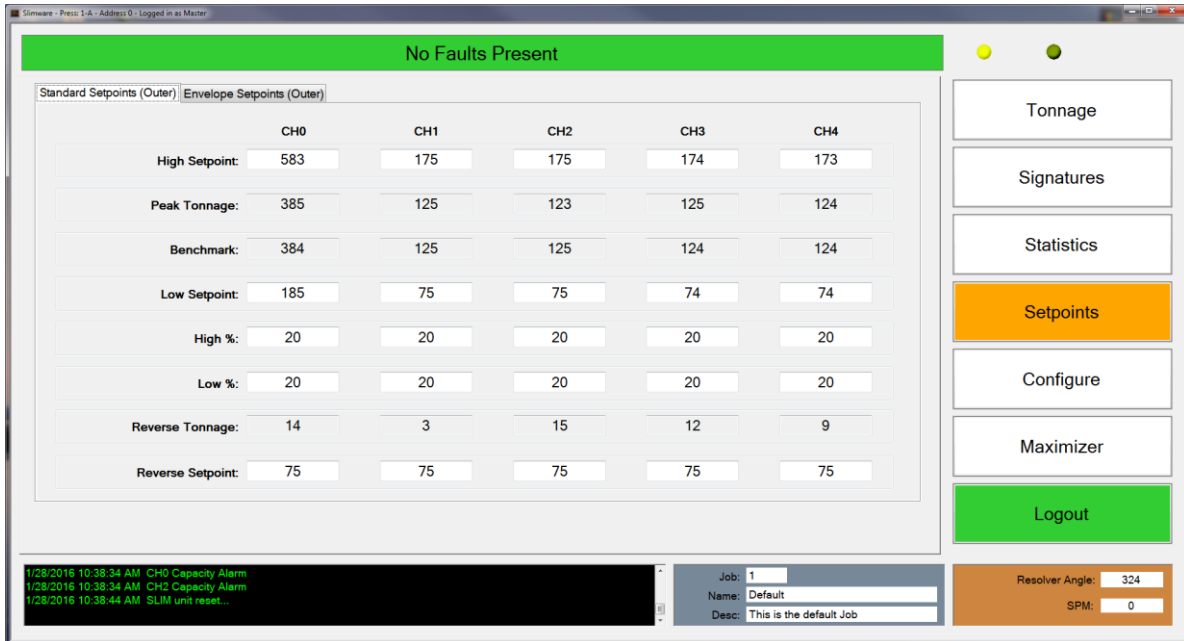

Figure 8-1 – Setpoints Screen (4 Channel)
Figure 8-1 shows a typical four (4) channel SLIM unit setpoint screen. If the user is not logged in with a setup or master level password, these setpoints are "read only". If a user is logged in with a setup or master password, these values can be changed.